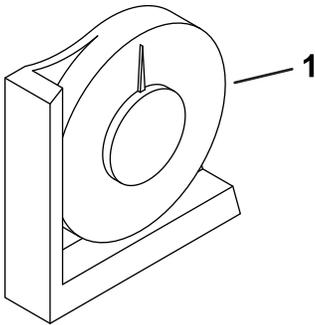

Figure 5
2. Verify that the machine is level by placing the handheld inclinometer (supplied with the machine) on the frame cross rail, by the fuel tank (Figure 5).